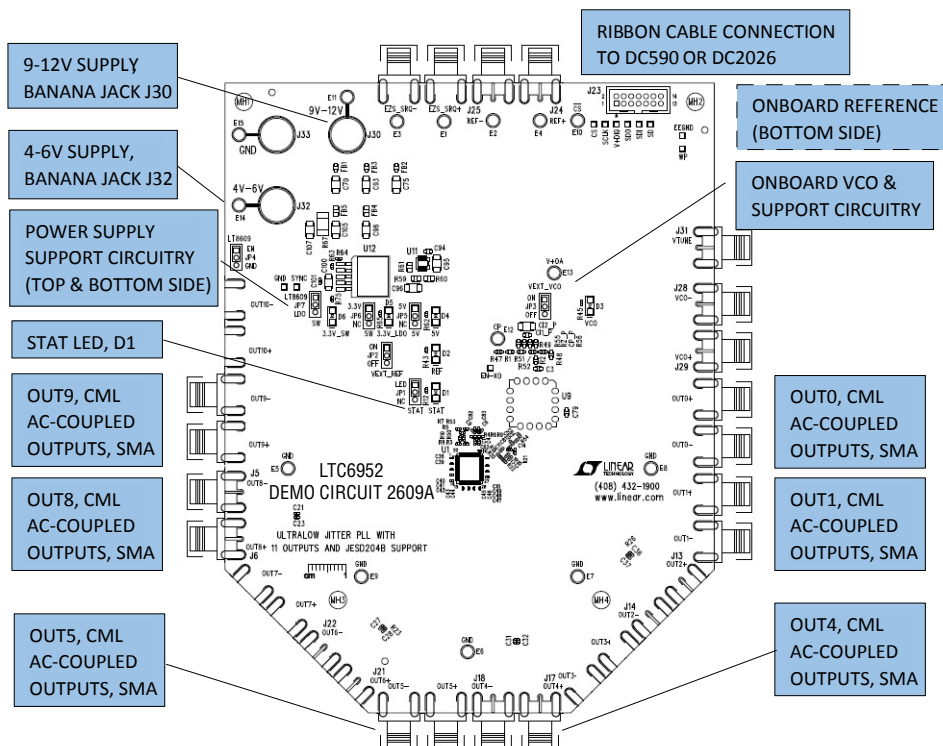

Figure 1. DC2609A Connections
1. Connect J30, J32 and J33 to the appropriate power supplies and apply power (see Figure 1 and the Typical DC2609A Requirements and Characteristics table).